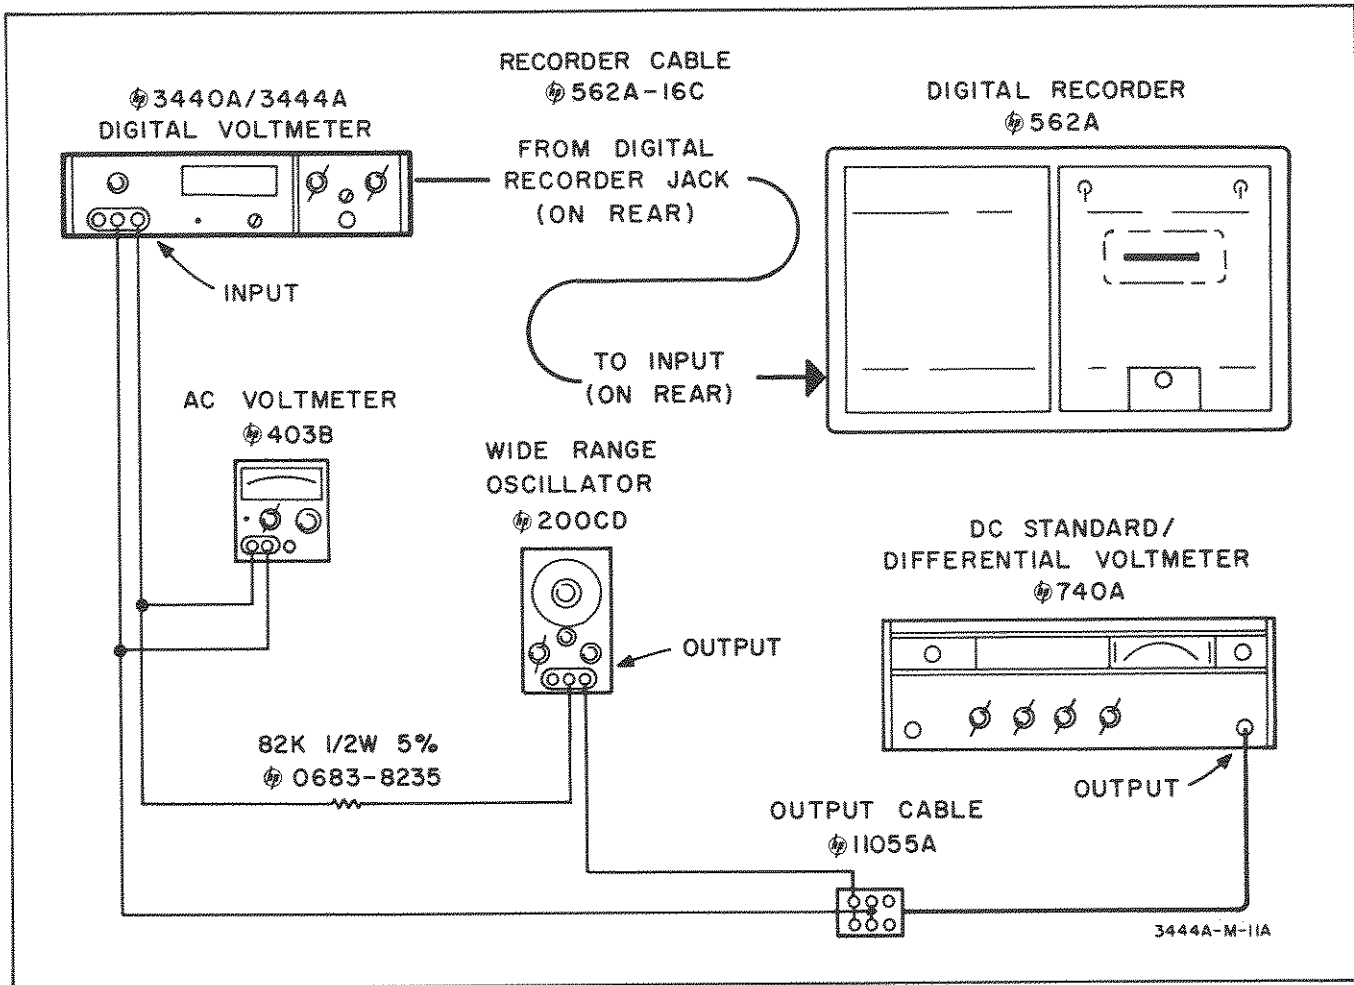

Figure 5-7. Input Filter AC Rejection Test Setup
- a. Using the test setup in Figure 5-7, connect the DC Standard and the Wide Range Oscillator in series with each other and connect to the input of the 3440A/3444A.
- a. Use the same test setup shown in Figure 5-7 except the clip-on AC Current Probe is added to monitor the ac current from the Wide Range Oscillator. This probe is inserted into the input terminals of the AC Voltmeter and clipped onto the lead connected to the + input terminal of the 3440A.